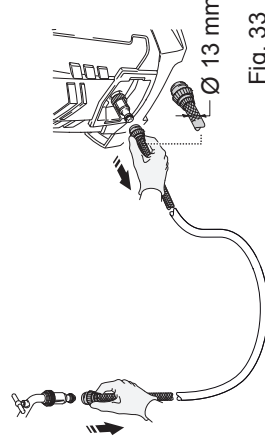

Fig. 33
7. Separate the water hose from the water supply (Fig. 33).